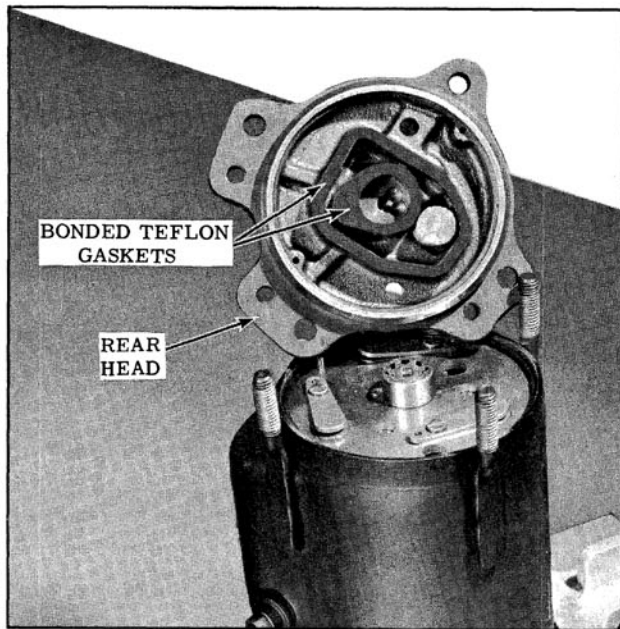

Fig. 14-107 Rear Head Removal
3. Remove the rear head, inspect teflon gaskets on the casting. If teflon gaskets are damaged, replace the rear head. (Fig. 14-107)